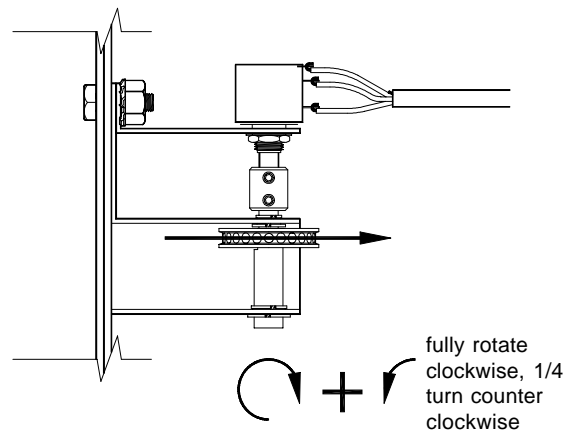

Figure 3
5) Rotate potentiometer drive sprocket (clockwise looking at end of the shaft) until the internal stop is reached. Rotate the sprocket in the reverse (counter clockwise) direction 1/4 turn (90°) away from the stop. **See Figure 3.**